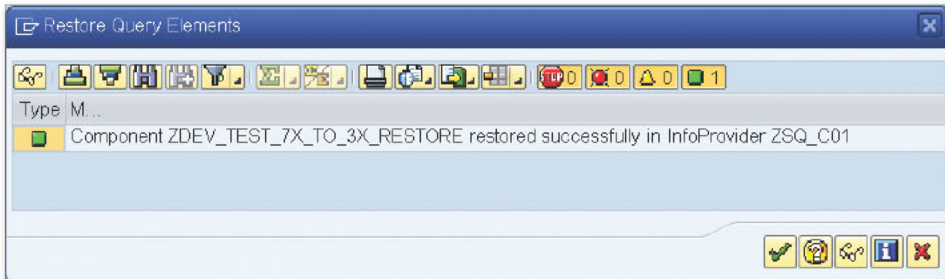

Figure 4 Successful Restoration
4. In the next screen, click on YES to confirm the restore. The system displays a success message as shown in Figure 4.